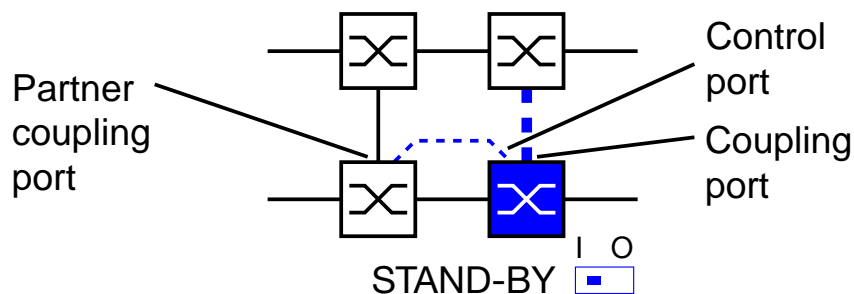

Fig. 28: Two-switch coupling with control line
- Select the two-switch redundant coupling with control line (see Fig. 28).